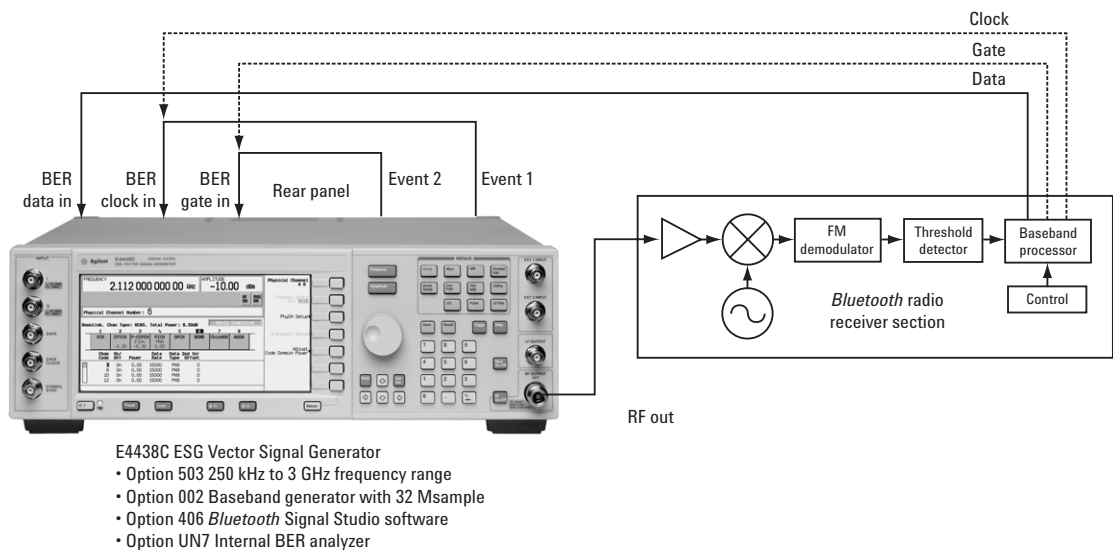
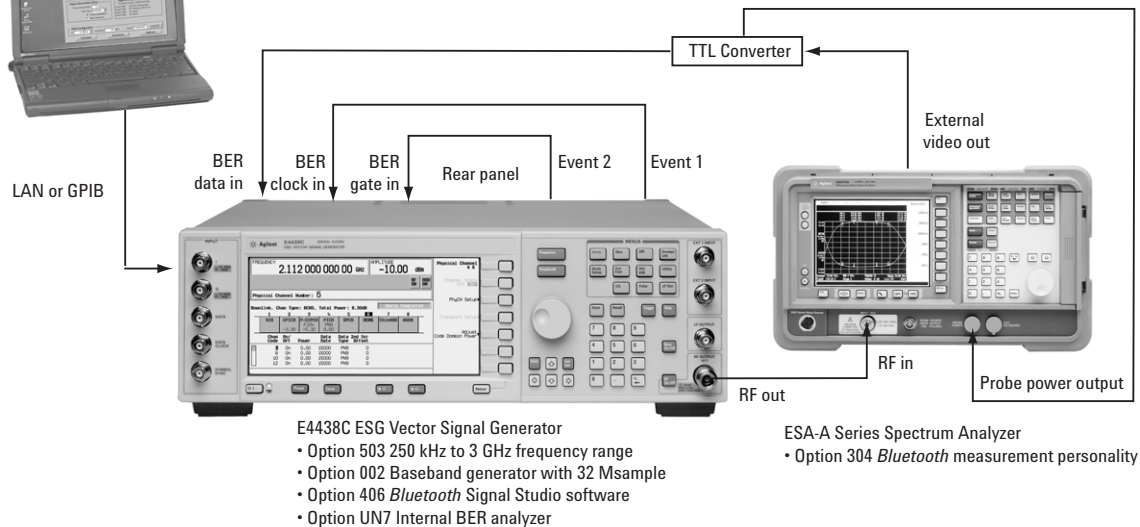

Figure 29. BER test setup for a *Bluetooth* device in “continuous receive” operating mode.
Figure 31. Example BER measurement setup using the ESA to demodulate the *Bluetooth* signal generated by the ESG.
An example BER measurement setup is illustrated in Figure 29. In this setup, the ESG is configured to provide a *Bluetooth* modulated RF signal using Signal Studio. The RF test signal consists of a sequence of *Bluetooth* modulated DH1 packets with continuous PN9 payload data.
This example illustrates the procedure for performing clock/gate delay calibration using Signal Studio. In this example, the measurement setup illustrated in Figure 31 is used. This is very similar to the test setup illustrated in Figure 29; however, for demonstration purposes, the Agilent ESA series spectrum analyzer (with the *Bluetooth* measurement personality) is used to demodulate the *Bluetooth* signal generated by the ESG instead of an actual *Bluetooth* receiver.
1. Connect the test setup as shown in Figure 31 and preset the ESG.